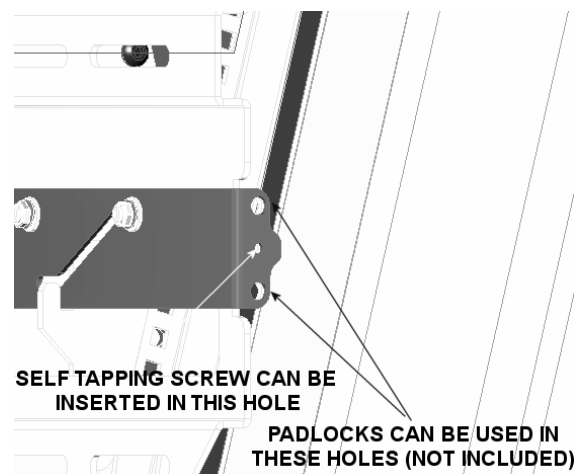

Figure 14. Added Security
3. If desired, install self tapping screws and/or padlocks (not provided) for additional security (see Figure 14).